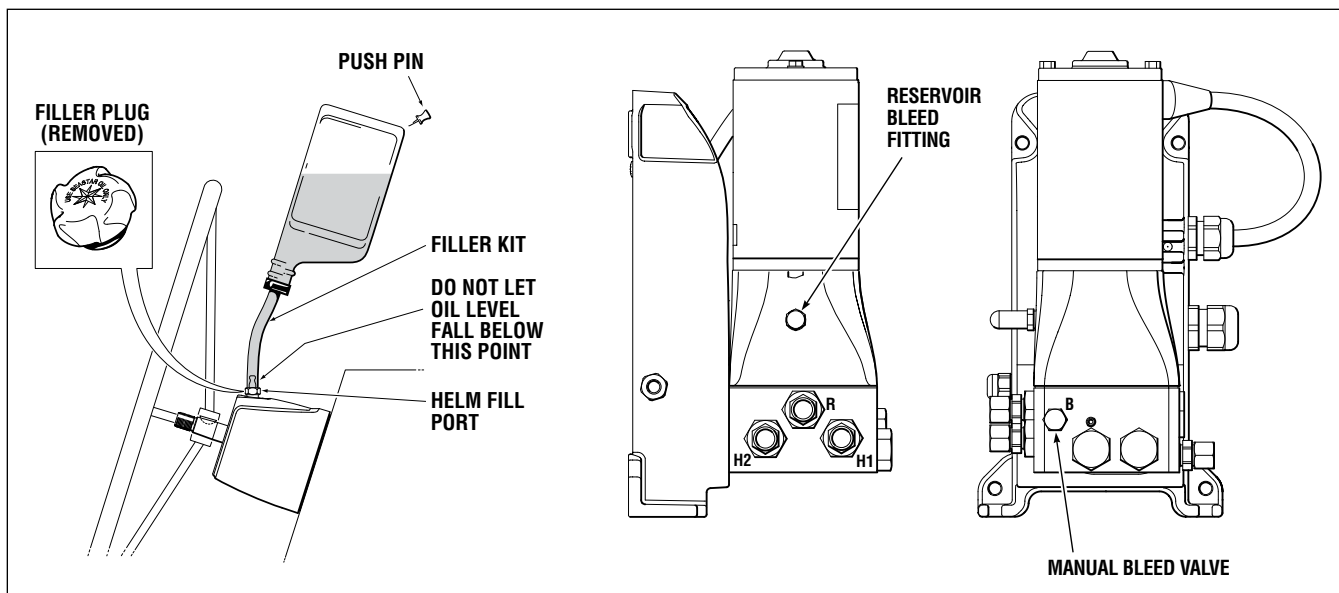

Figure 27.
- Connect one of the fluid return hoses (cylinder lines) from the Power Purge unit to the Reservoir bleed fitting on the P/A unit. (see Figure 27 on page 28 for bleed fitting location).
2. Open the manual bleed valve and reservoir bleed fitting (see Figure 27) on the power assist unit. The manual bleed valve should be opened two full turns.